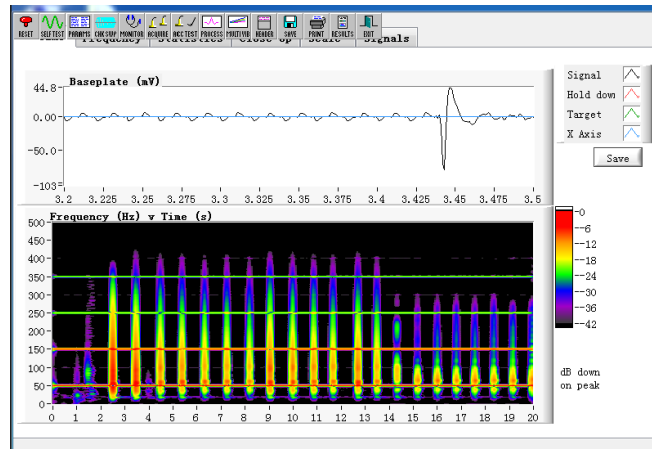

Figure 1 Inova Acc tap result
- 5) Determine polarity of accelerometers as figure 1